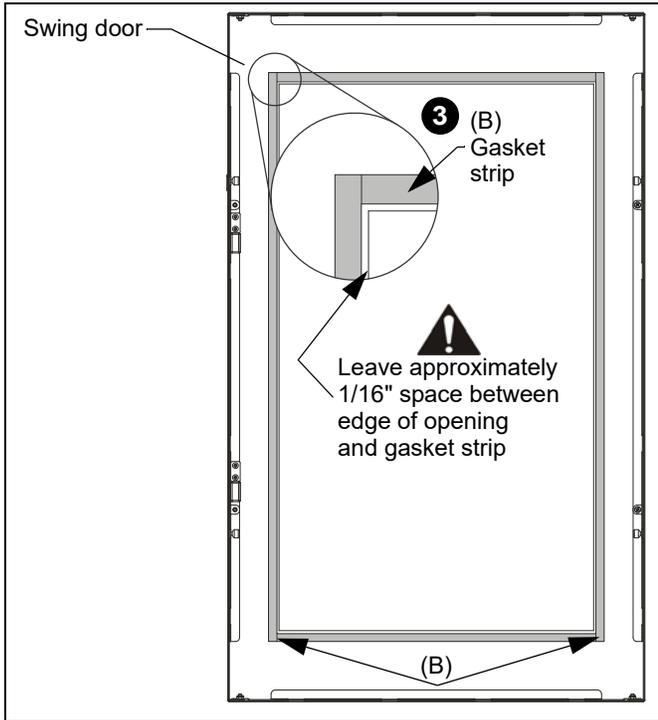

Figure 7
- Clean the inside edge of the swing door (approximately one inch depth around entire opening) with an alcohol wipe or something similar, and let dry. (See Figure 7)
- Install gasket strip (B) around inside edge of swing door opening. (See Figure 7)